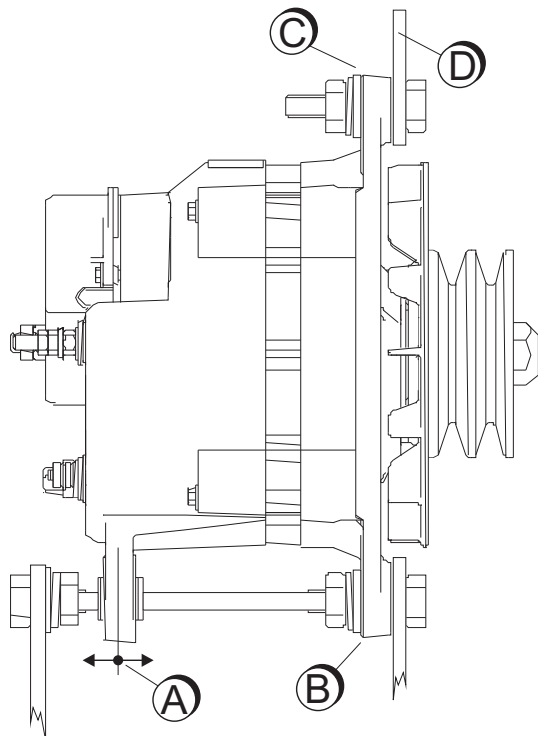

Figure 5
- 2 Loosely attach the mounting bracket to the engine with the mounting engine bolts. Position the alternator mounting foot between the two ears (figure 5, references A and B) on the mounting bracket with the alternator mounting bolts. Note that the ear at the rear side of the alternator housing should be fixed in such way that it can freely move in the direction of the arrow (see figure 5, reference A). This is to avoid mechanical stress due to possible high temperatures of the alternator.
- 4 Loosely attach the alternator adjustment strap (Figure 5 and 6: reference D) to the alternator adjustment ear (figure 5, reference C) with the bolt, lockwasher and flat washer.
- 5 Tighten the V-belt by applying pressure to the alternator front housing only and tighten the bolt to the adjustment ear (figure 5, reference C). Set belt tension per belt manufacturer's recommended specifications. If manufacturer's specifications are not readily available, set V-belt tension tight enough so that the V-belt on alternator fan pulley will not slip when attempting to rotate alternator by hand.